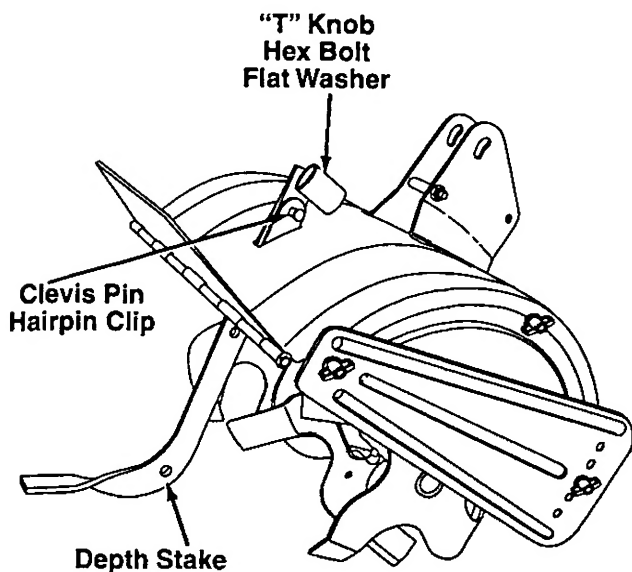

FIGURE 1.
2. Unthread the "T" knob from the top of the depth stake, and remove the flat washer and hex bolt. Remove the hairpin clip from the clevis pin. See figure 1.
3. Raise the tine shield hinge flap assembly. Insert the depth stake assembly in the slot (under the tine shield) and up through the tine shield assembly as shown in figure 1.
5. Insert hex bolt into the top hole of the depth stake assembly. Place flat washer onto the hex bolt and thread "T" knob onto the hex bolt. See figure 1. Tighten securely.